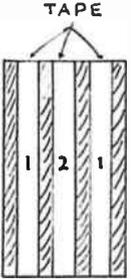

Fig. 2
2. The first series marked 1 on the diagram is a double one, the same method of stringing being followed while using two tapes, each being attached near the outside edges of the blocks. The other series, marked as 2 involves a single tape series attached centrally. This is clearly shown in Fig. 2. The precise method of stringing together is shown for each of these two series in Fig. 1, where the thick lines represent the blocks and the thinner ones the pieces of